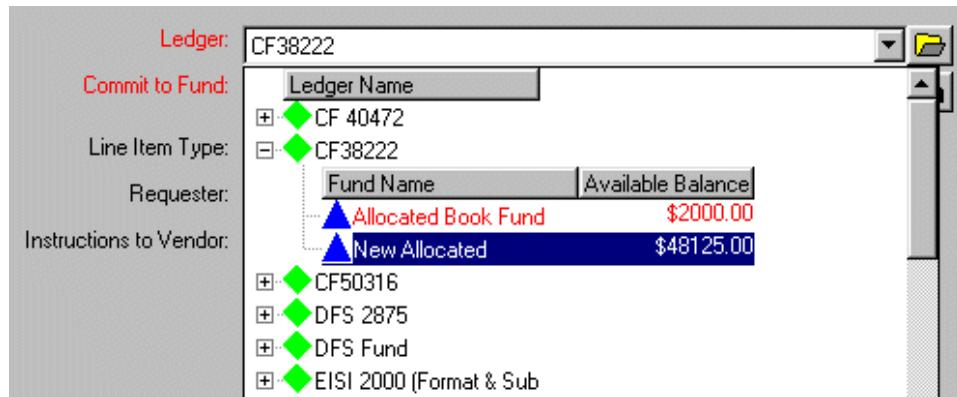

Figure 6-52. Ledger/Fund hierarchy displayed in the Ledger field
- If you want to select a fund from a ledger/fund hierarchy (Figure 6-52) rather than typing the fund code into the **Commit to Fund** field, click the **folder** button beside the **Ledger** field. This displays a hierarchy of available ledgers and funds. To aid you in selecting an appropriate fund, each fund's available balance displays within the hierarchy.